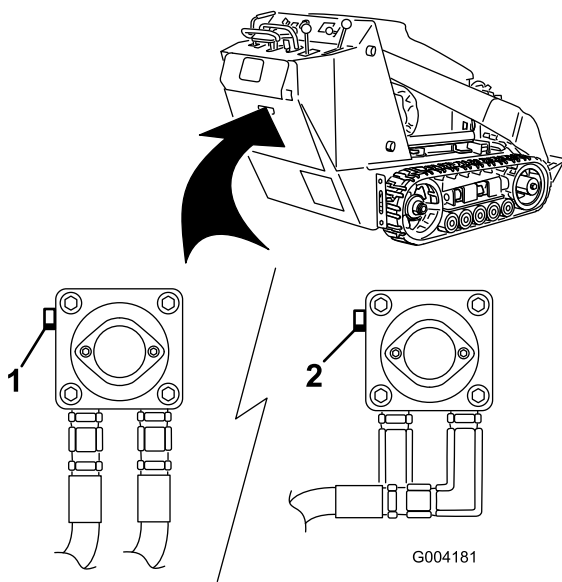

Figure 18
3. Using a wrench, turn the tow valves on the hydraulic pumps twice counter-clockwise (Figure 18).